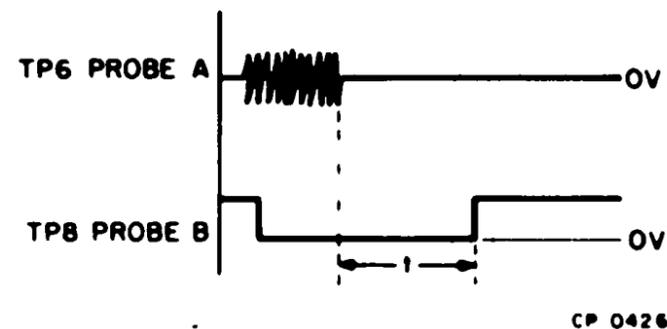

Figure 5.12 Signal Time Waveform
5. Connect the Channel 1 oscilloscope probe to TP2 (AMP 2 OUT) and Channel 2 to TP19 (SIGNAL 1) of the M7761 module. Adjust the oscilloscope controls to obtain the waveforms indicated in Figure 5.12.